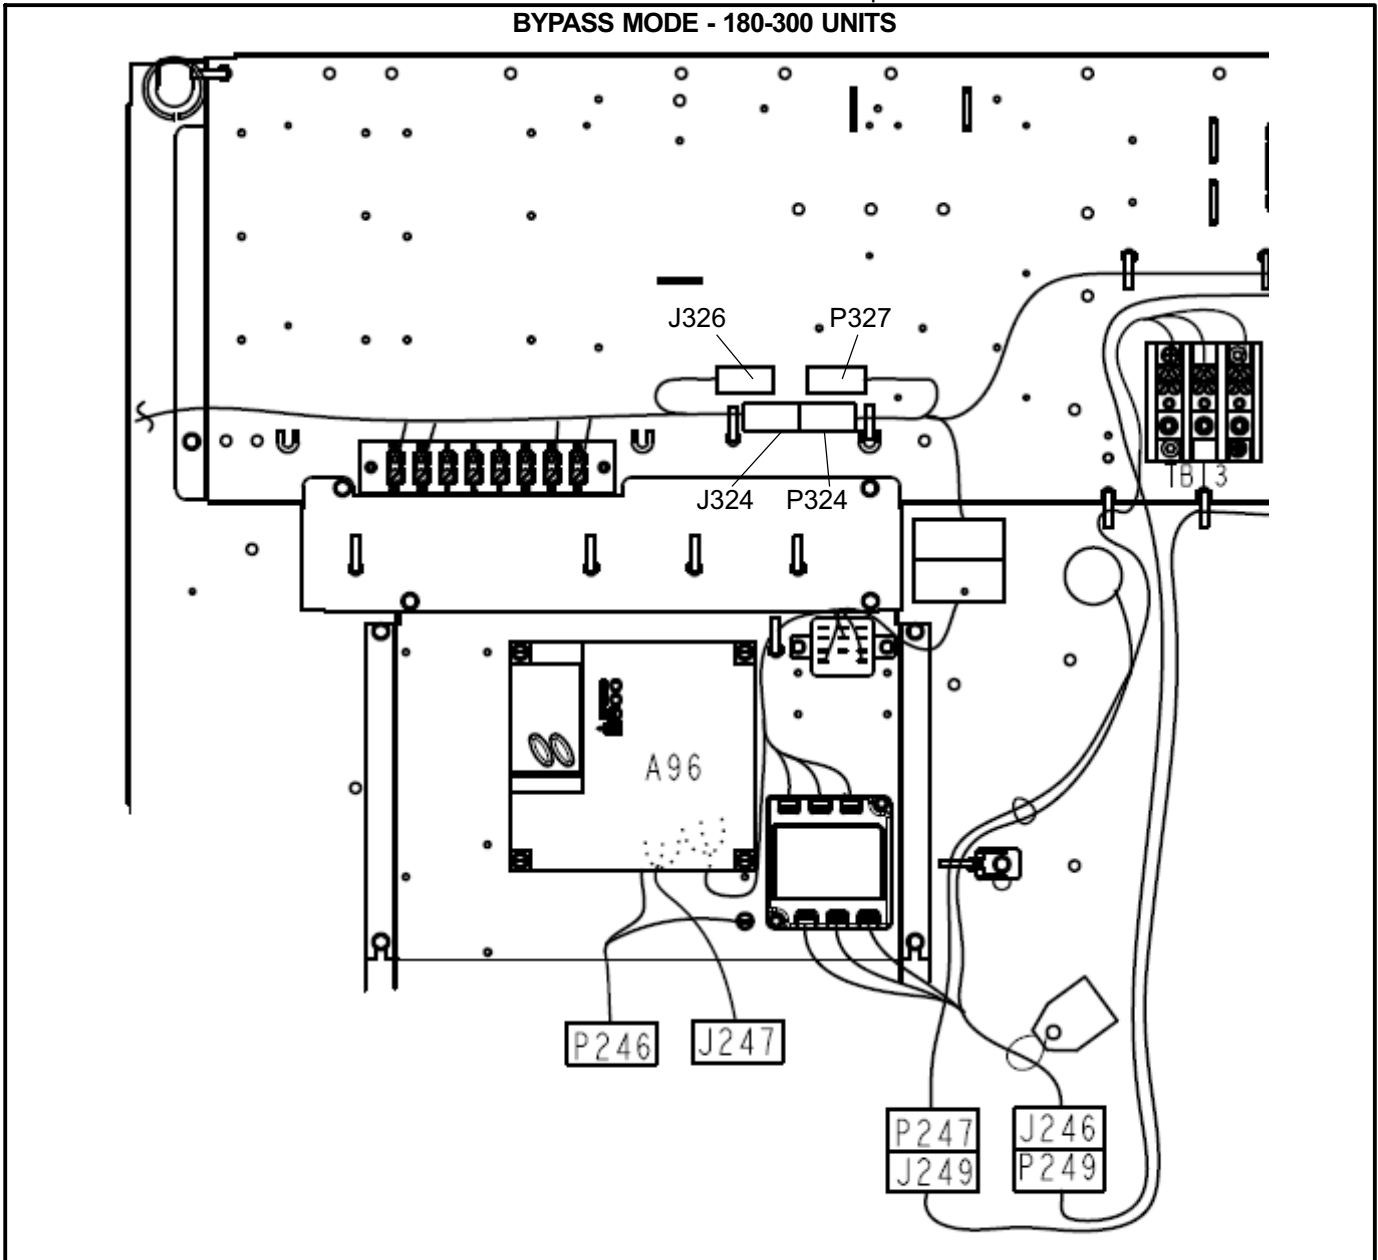

FIGURE 3
- 4- Connect P324 into J324 as shown in figure 3.
- 8- Connect J249 into P247 as shown in figure 3.